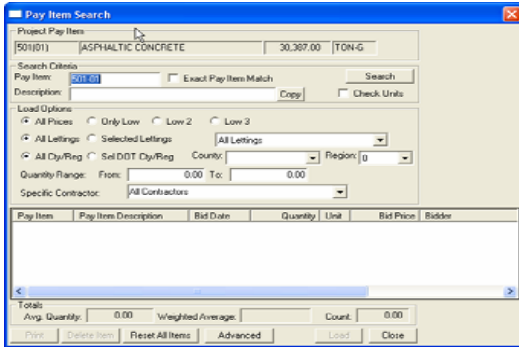

Figure 2.22
This option will provide searches for all standard or non-standard (or special) items. Non-Standard pay items are pay items whose descriptions change from job to job and are NOT unique. For example, item 770-01 may be 6" water line on one job and the same pay item number may be water line fittings on another job. To use this option, highlight one of the alternate prices for the pay item you wish to search for, then select Load Tabs Data: Non-Standard Item. A window will open as shown in Figure 2.22.